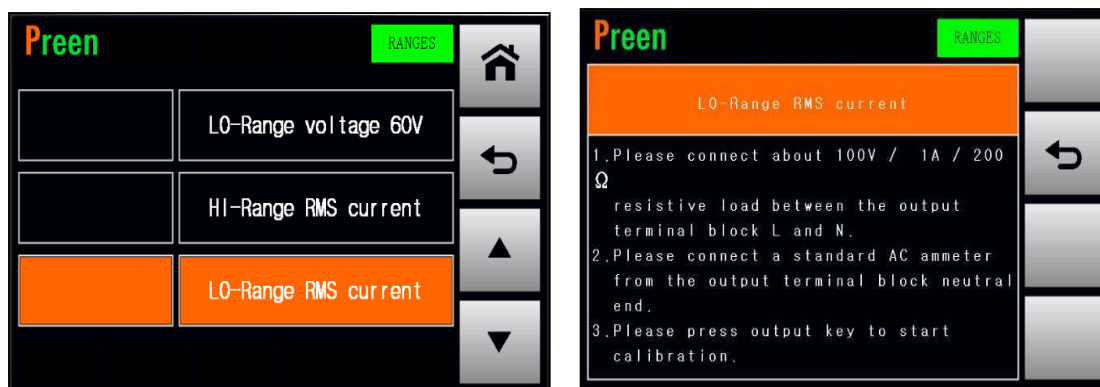

Figure 4-6-1 Enter into the page which calibrates the LO-Range RMS current.
1. Press the item **HI-Range RMS current** repeatedly to enter into the page which calibrates the HI-Range RMS current (refer to Figure 4-6-1).